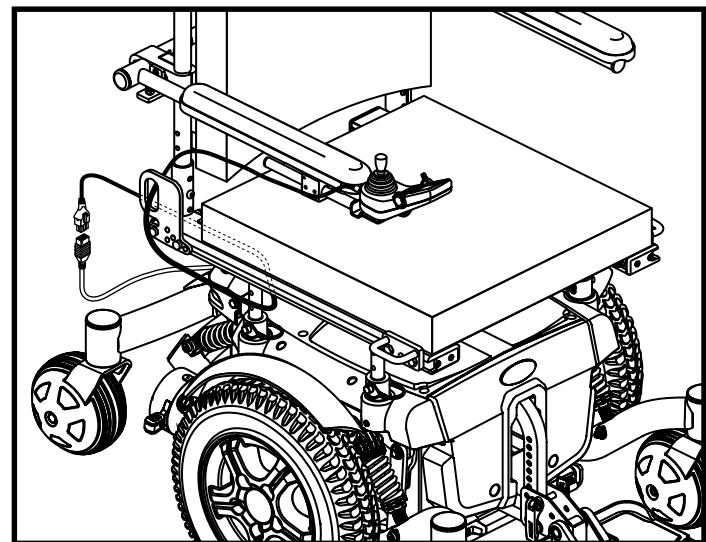

Figure 12. Controller Routed on a Synergy Seat
4. Install the controller and route the cable to the back of the power base. See figures 12 and 13.